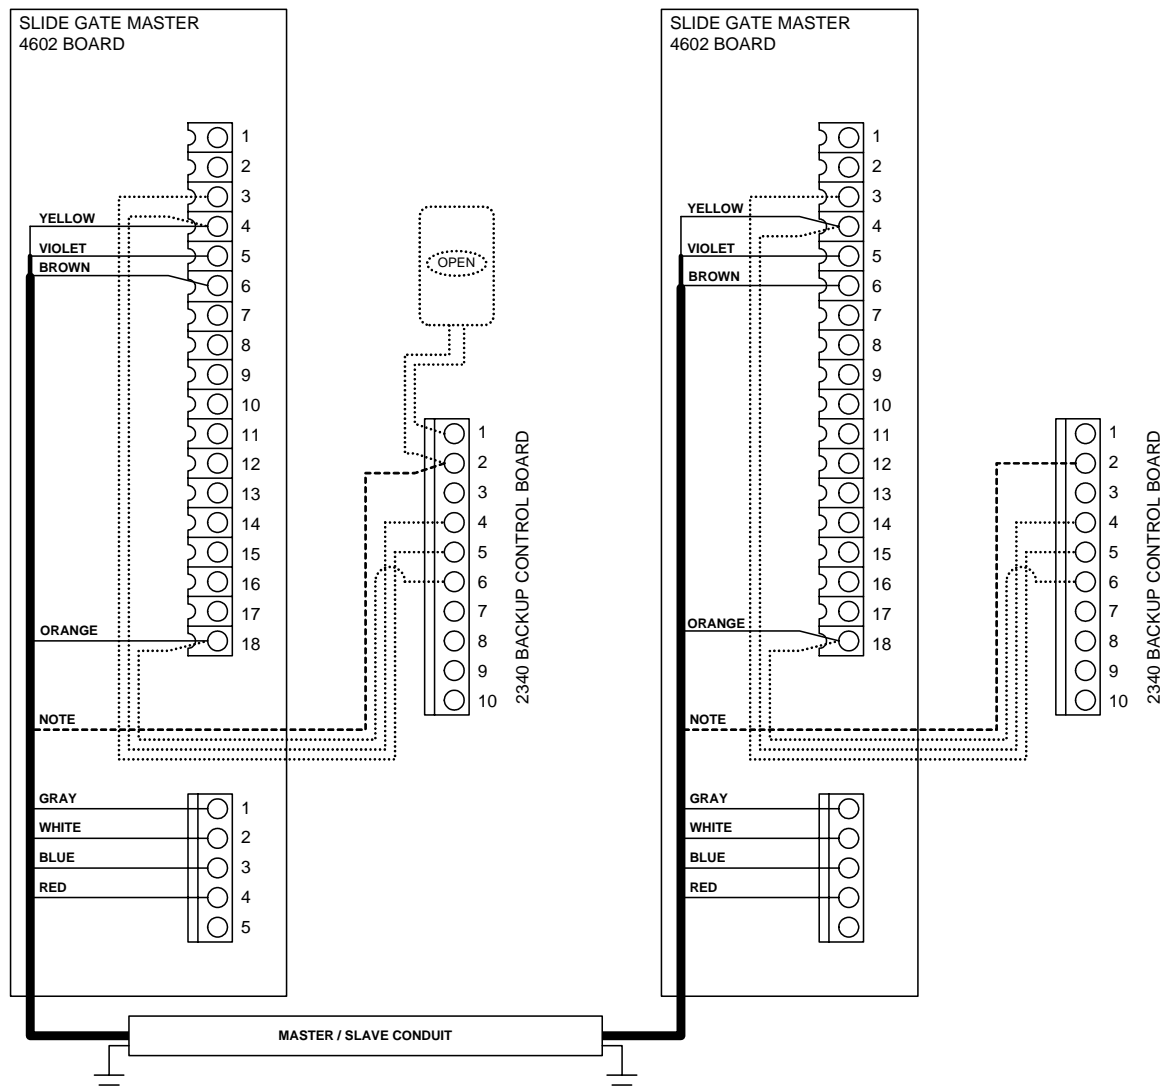

Figure 4
- Slide gate systems use two master operators rather than a master-slave combination to create bi-parting slide gates. Wire slide gate master / master operators as shown in Figure 4. Color code shown assumes the use of DoorKing master / slave cable. Order part number 2600-755 (30 ft.), 2600-756 (40 ft.), 2600-757 (50 ft.).